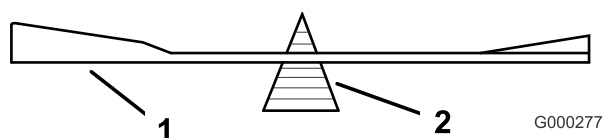

Figure 93
2. Check the balance of the blade by putting it on a blade balancer (Figure 93). If the blade stays in a horizontal position, the blade is balanced and can be used. If the blade is not balanced, file some metal off the end of